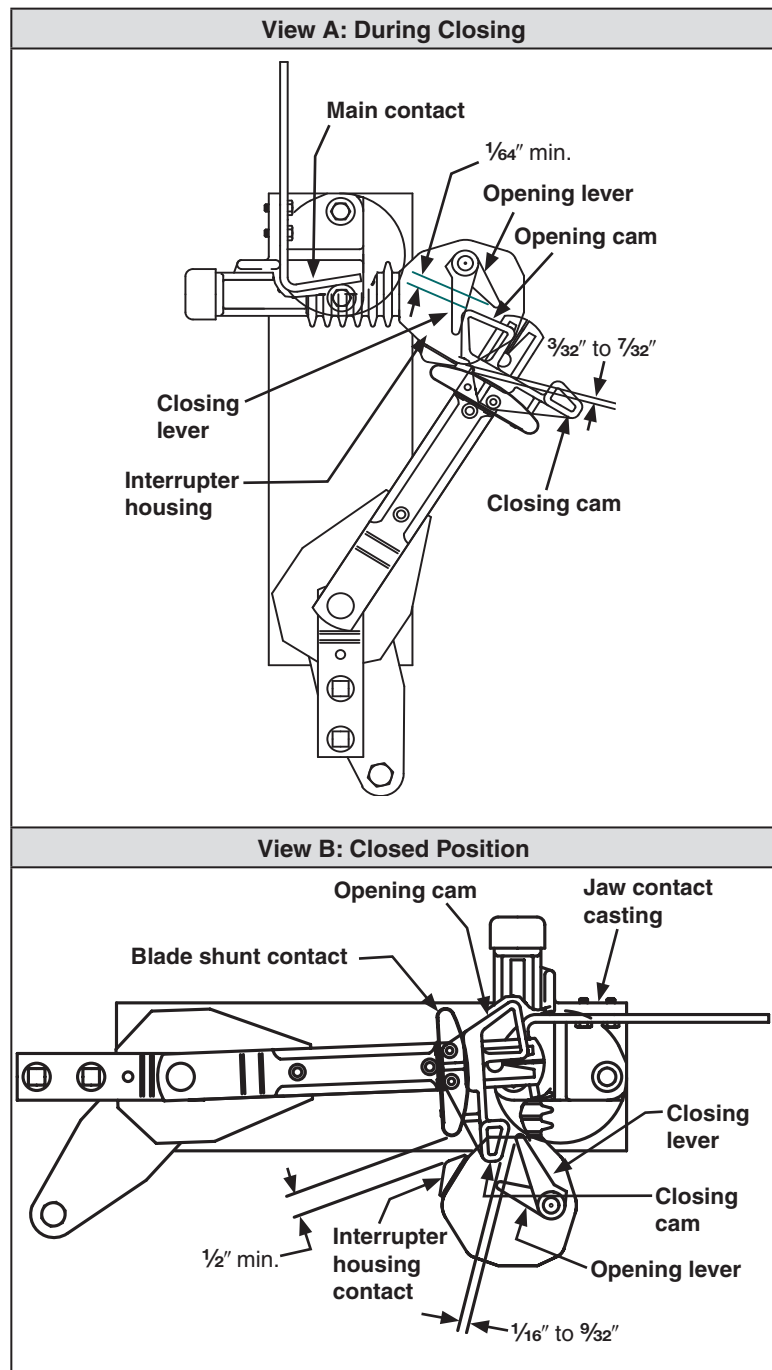

Figure 16. Operating checkpoints for switches rated 14.4 kV.
- c. Open the switch and place the blade in the position shown in Figure 16, View A. The following conditions should be met: